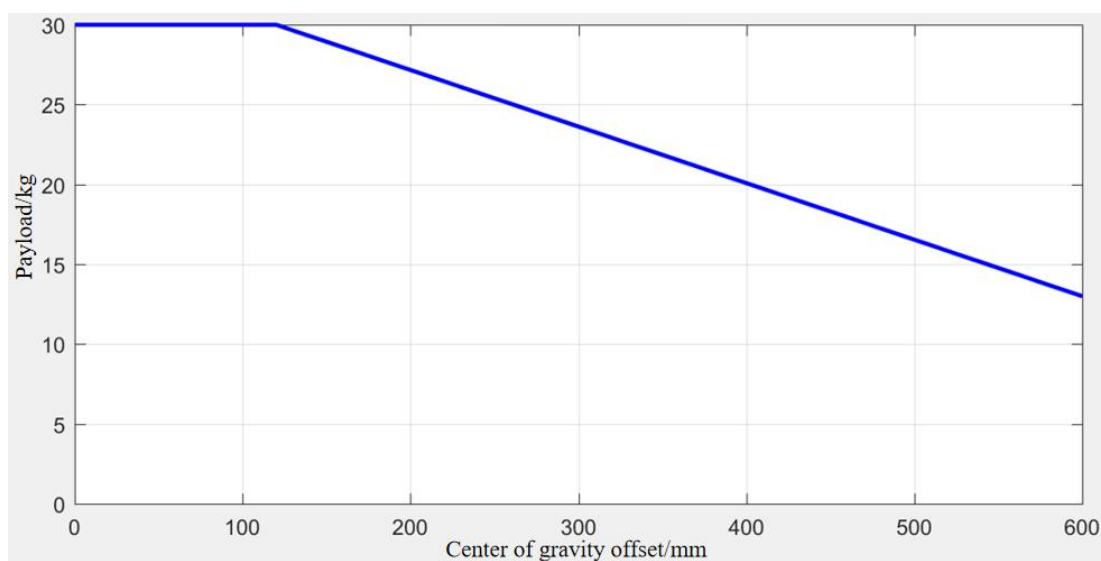

Figure B-11 G30 Payload and Center of Gravity Offset curves
- The relationship curve between the payload of the G30 collaborative robot and the payload center of gravity offset is shown in Figure B-11.